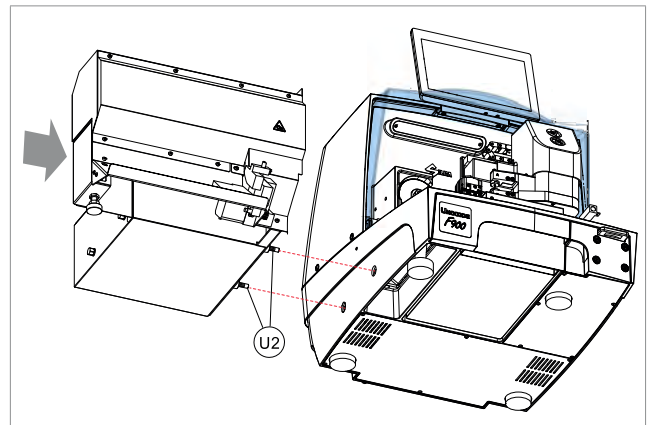

Fig. 30
- 1) Place the feeder unit in position with the threaded pins (U2) in the holes on the left-hand side of the key-cutting machine (Fig. 30).